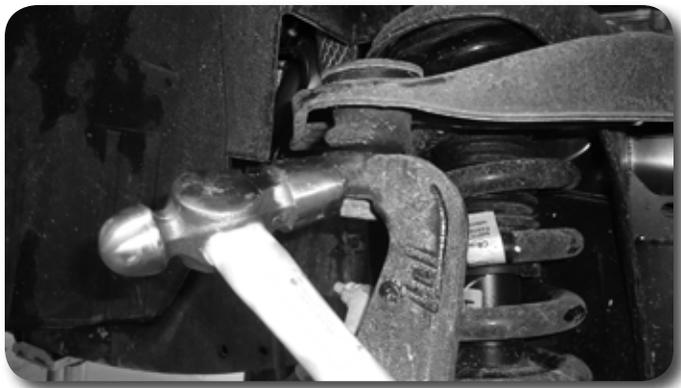

Figure 4
7. Support the lower control arm with a hydraulic jack and remove the nut from the upper ball joint. Thread the nut back on a couple of turns by hand. Strike the knuckle near the upper ball joint to dislodge the rod end taper from the knuckle **Figure 4**. Remove the nut and allow the knuckle to swing rearward out of the way. Save the ball joint nut.